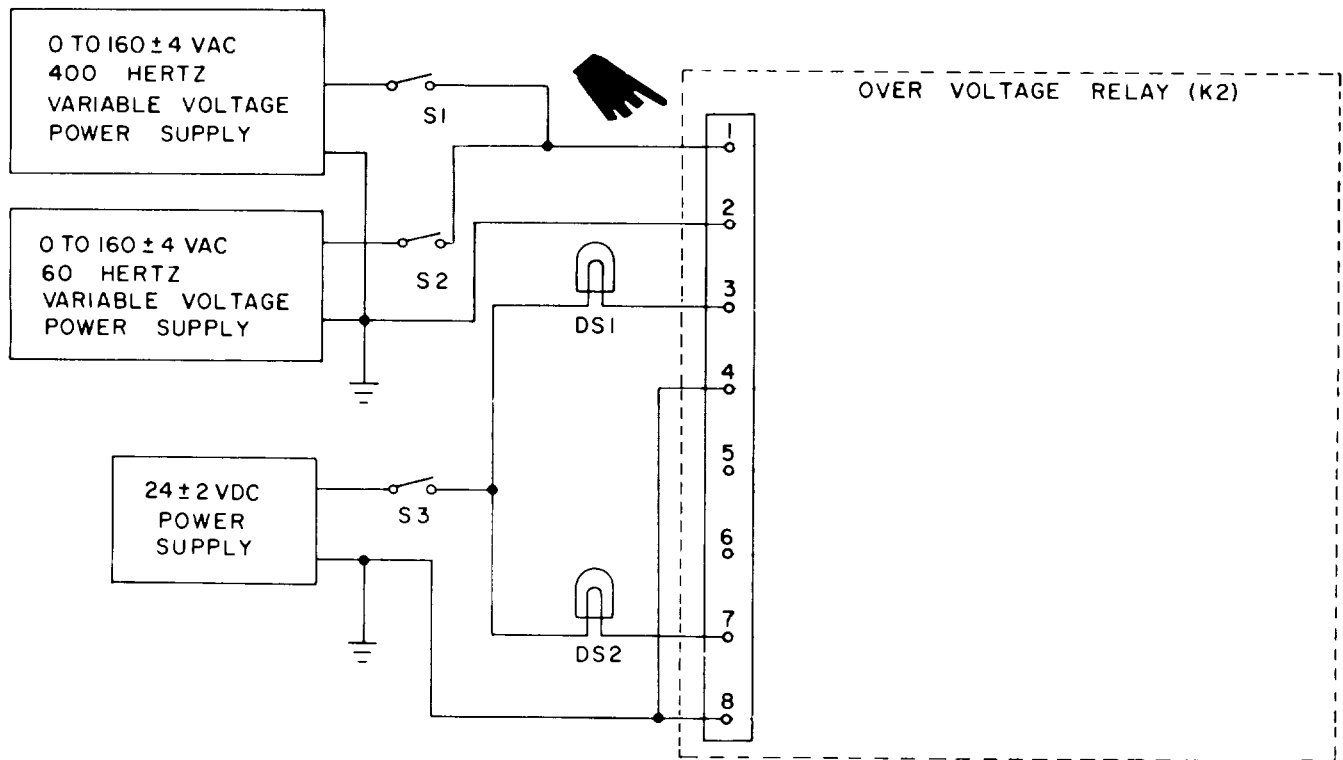

Figure 6-42. Over voltage relay (K2), test setup
a. Connect the overvoltage relay to the test equipment as illustrated in figure 6-42.